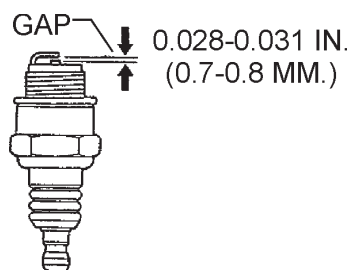

Figure 38. Spark Plug Gap
- Remove and clean the spark plug (Figure 38), then adjust the spark gap to 0.028 ~0.031 inch (0.6~0.7 mm). This unit has electronic ignition, which requires no adjustments.